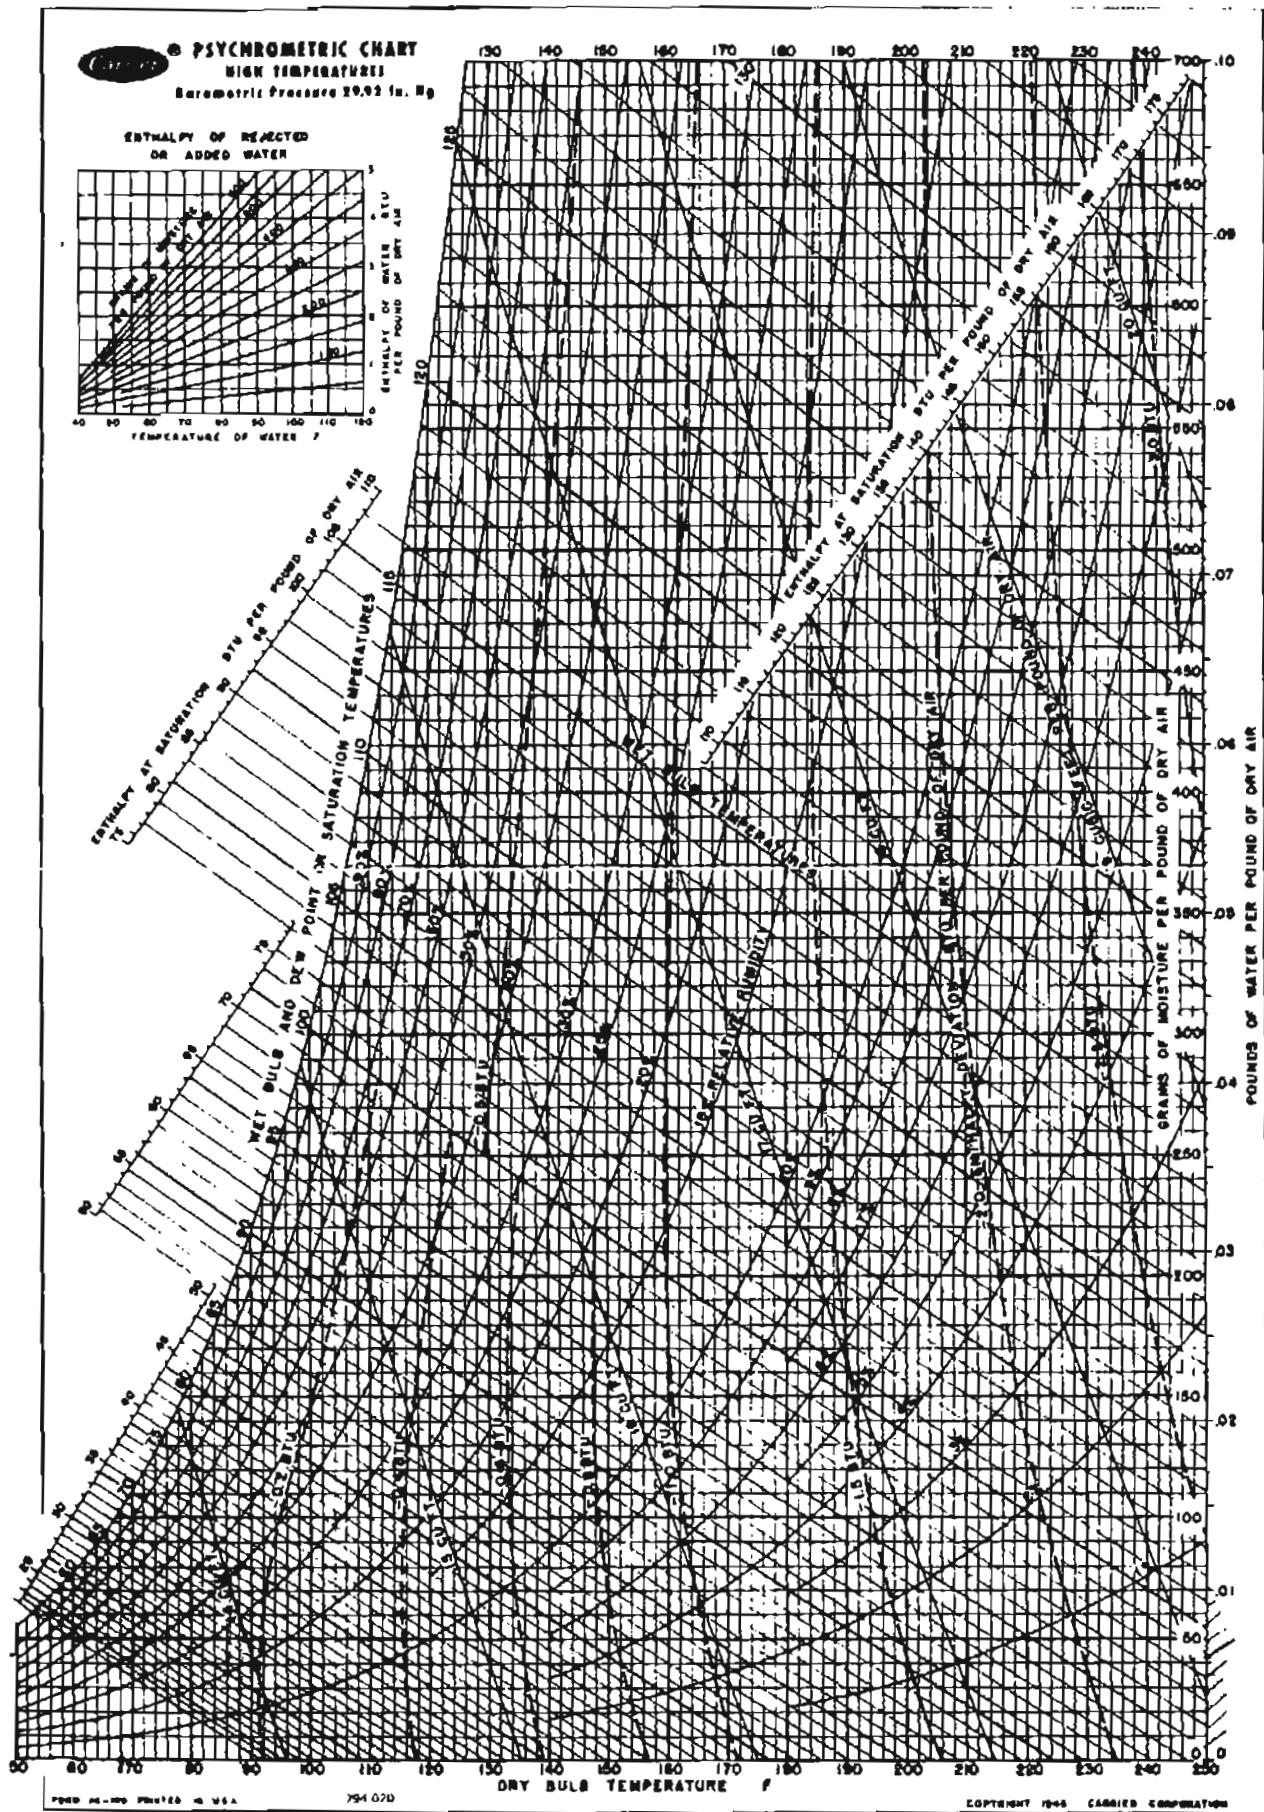
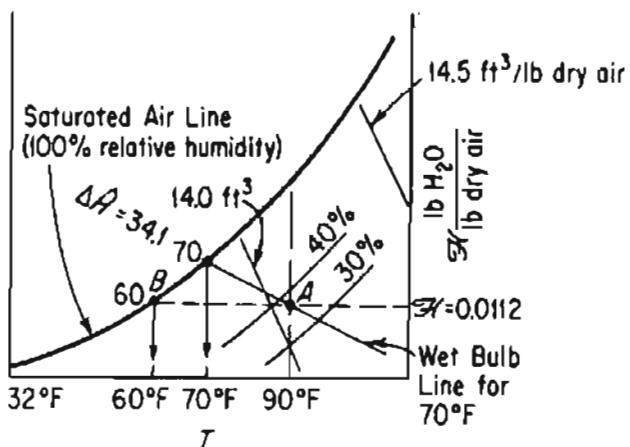

Figure 29.7a Psychrometric chart in AE units. (Reprinted by permission of Carrier Corporation)
Figure E29.1
Figures 29.7a and 29.7b are reproductions of the Carrier psychrometric charts.
A diagram will help explain the various properties that can be obtained from the humidity chart. See Figure E29.1.
- Enthalpy.* The enthalpy value for saturated air with a wet-bulb temperature of 70°F is $\Delta H = 34.1 \text{ Btu/lb dry air}$ (a more accurate value can be obtained from psychrometric tables if needed). The enthalpy deviation shown by the dashed curves in Figure 29.7a (not shown in Figure E29.1) for less than saturated air is about -0.2 Btu/lb of dry air; consequently, the actual enthalpy of air at 37% RH is $34.0 - 0.2 = 33.8 \text{ Btu/lb dry air}$.